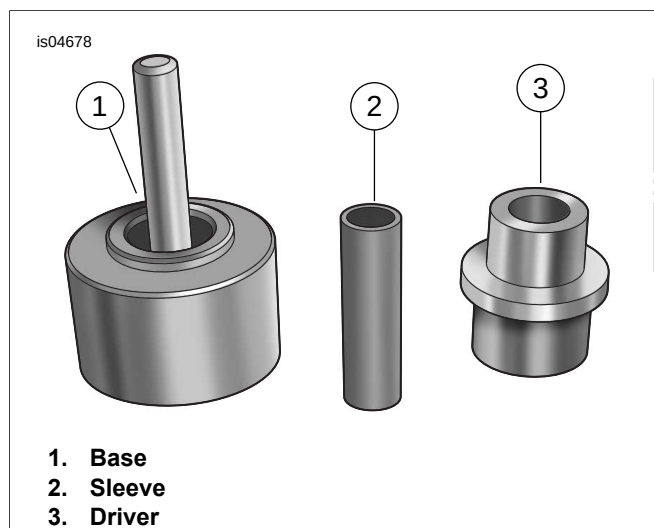

Figure 2-60. Rear Wheel Compensator Sprocket Bearing Remover/Installer (HD-48921)
4. See Figure 2-60. Obtain the REAR WHEEL COMPENSATOR SPROCKET BEARING REMOVER/INSTALLER (Part No. HD-48921).